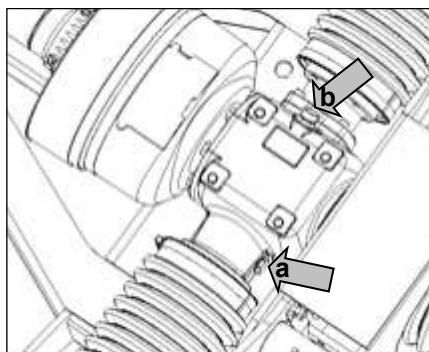

Fig. 56
3. Remove the oil level plug on the rear of the gearbox on the left side (Fig. 56, a).